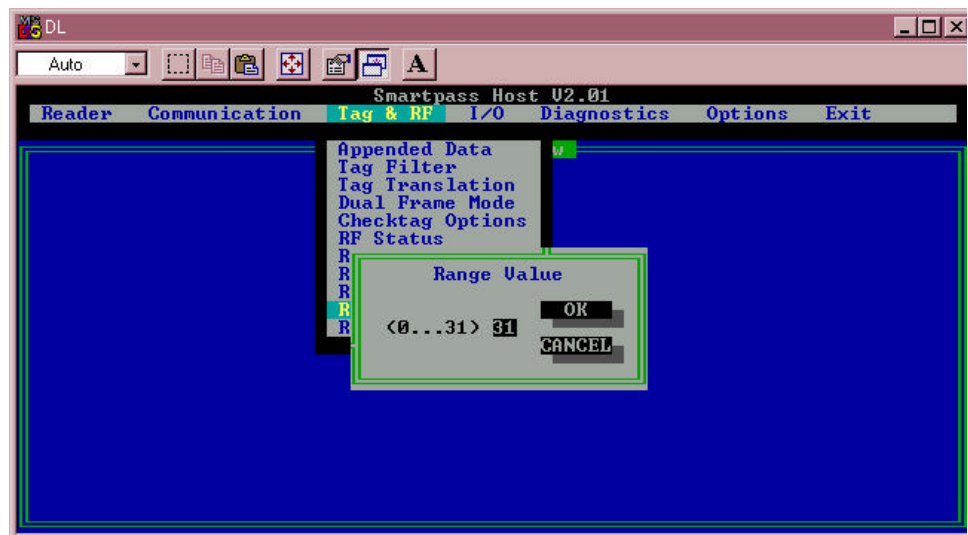

Figure 8-11 Range Value Dialog Box
3. Select the Tag & RF drop-down menu and click on the RF Range command. This displays the Range Value dialog box, as shown in Figure 8-11.